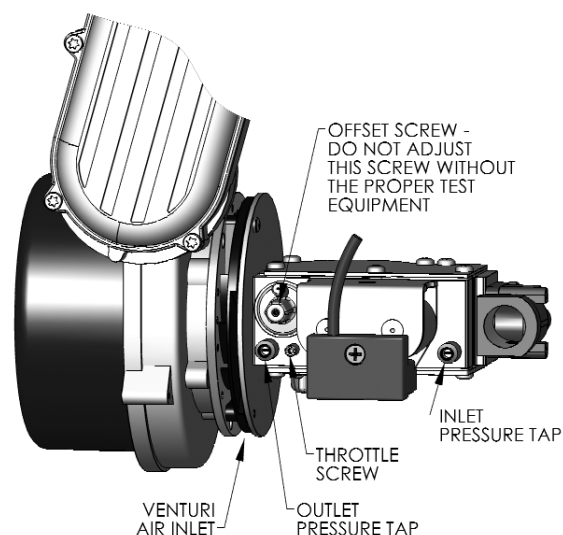

Figure 5.2: Gas Valve/Venturi
- c. Using a flat screwdriver, turn the screw inside the inlet tap fitting (see Figure 5.2) one turn counter clockwise.
1. Figure 5.2 is an illustration of the gas valve/venturi assembly for the *PUREFIRE®* boiler.
- a. Adjustments should not be made to the gas valve without instrumentation to measure carbon dioxide (CO₂) and carbon monoxide (CO) emissions in the vent pipe.